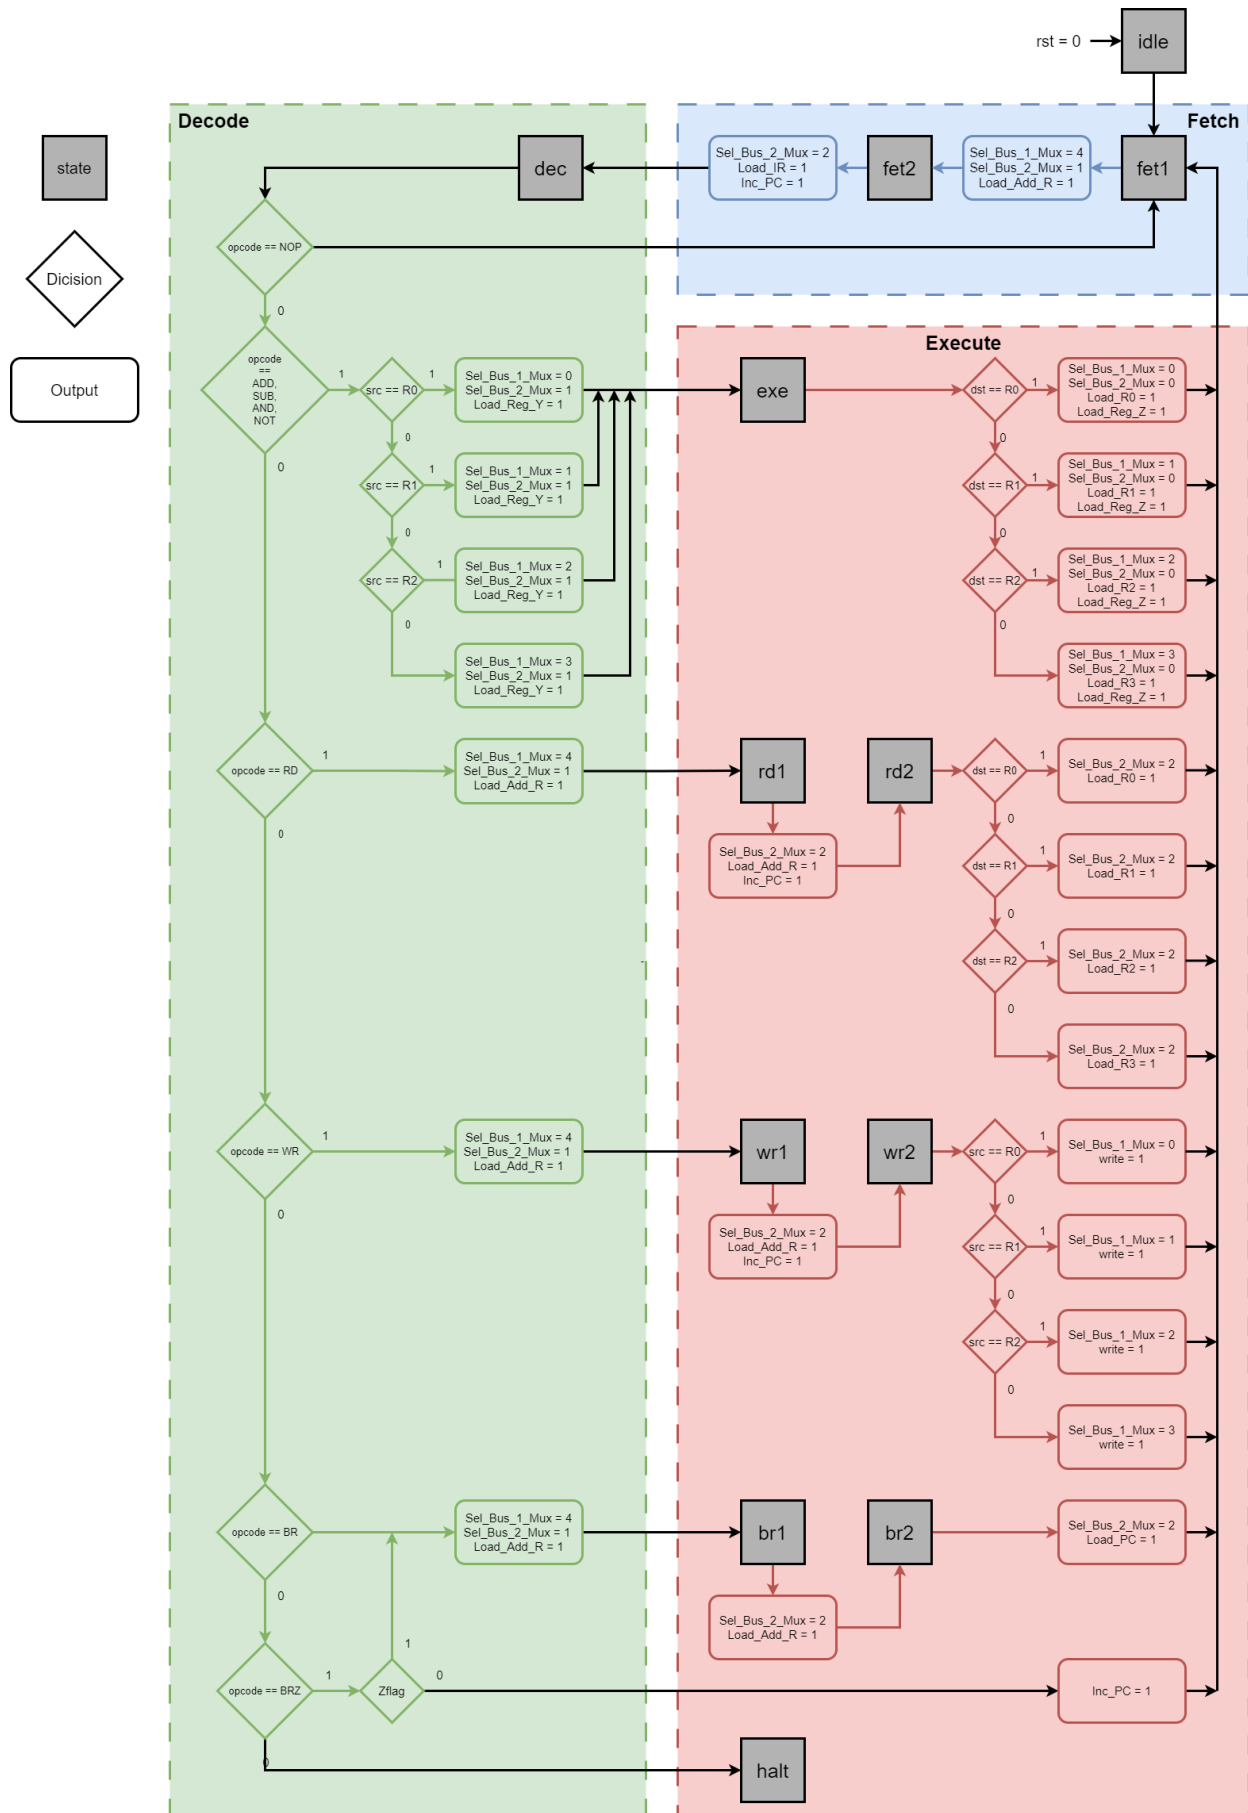

Figure 5 ASM diagram
A full ASM chart is shown in *figure 5*. Some thing to note here, is that because the controller has too many output signals to put on the diagram, so I will only mention about the set (1) signal, other signals is remain as reset (0).